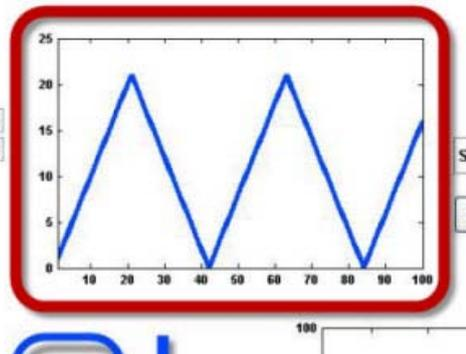

Figure 2b
1. The visualisation panel (Figure 2b)